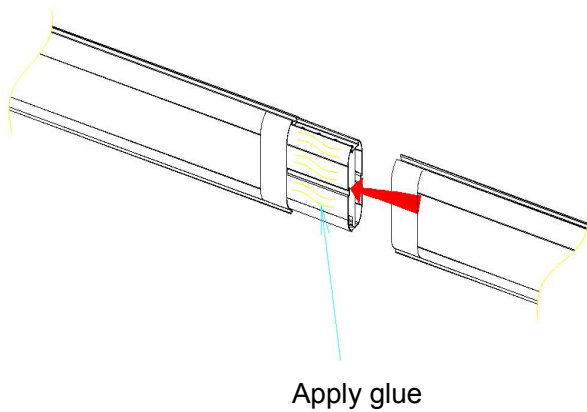

Figure 3-1
- 2) Add glue onto the connection part of the boom, fix the two parts together, as shown in Figure 3-1.